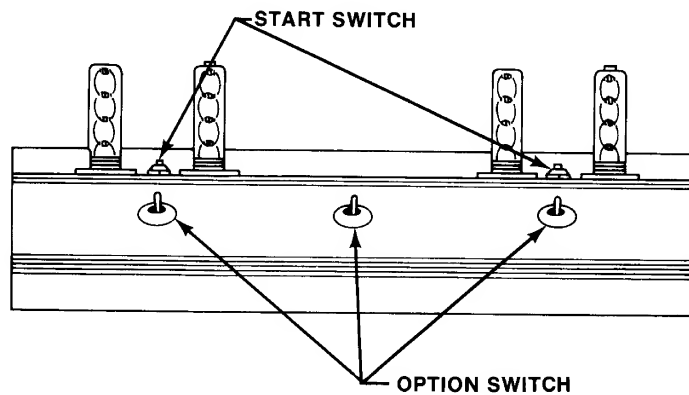

Figure 3-12 LED START Switch and Option Switch Replacement
F. LED START SWITCH AND OPTION SWITCH REPLACEMENT (See Figure 3-12)